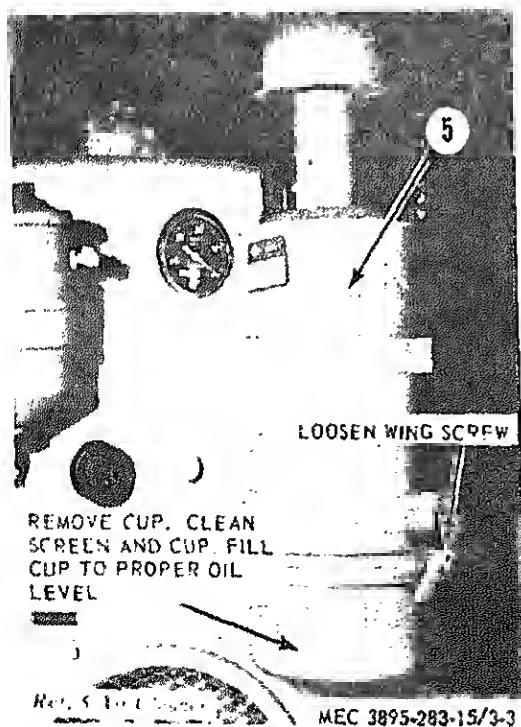

Figure 3-3. Engine Air Cleaner.
g. Engine Air Cleaner. Service the air cleaner as illustrated in figure 3-3.